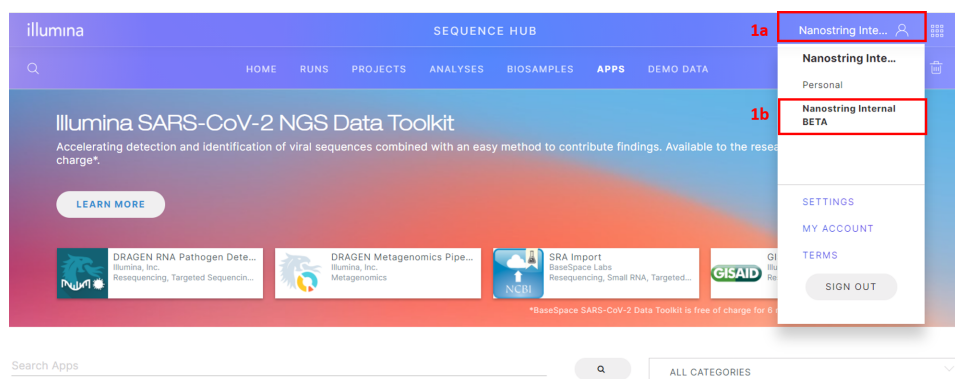

Figure 28: Select your workgroup. In this example, the workgroup is Nanostring Internal.
1. Log into BaseSpace and select the correct workgroup (Figure 28).